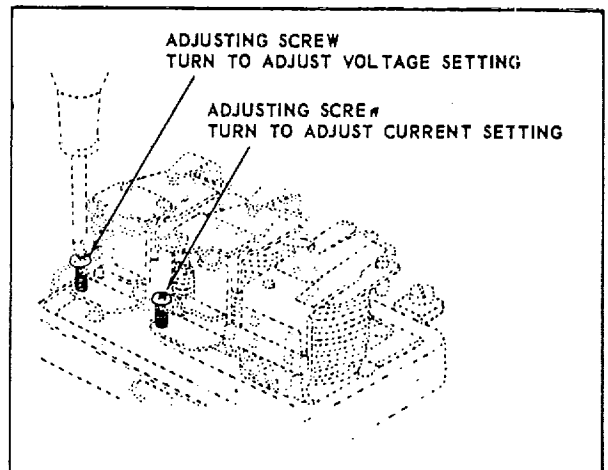
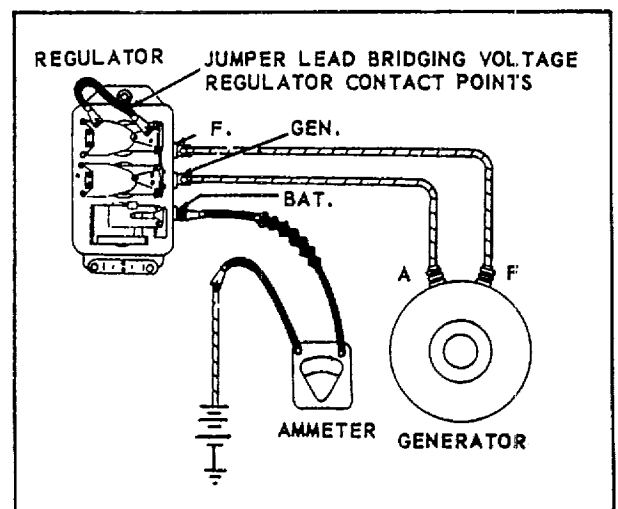

Figure 7-1H. Voltage and Current Adjustments
Figure 7-1J. Checking Current Setting of Current Regulator
for proper voltage setting.) To adjust voltage setting, turn adjusting screw as shown in figure 7-1H, clockwise to increase voltage setting and counter-clockwise to decrease voltage setting.
(3) After each adjustment and before taking voltage reading, replace the regulator cover, reduce generator speed until relay points open, then bring the generator back to speed again.
b. To check the current regulator setting, the voltage regulator must be prevented from operating. Remove the regulator cover and connect a jumper lead across the voltage contact points. Disconnect the battery lead at the regulator, connect the 2.25 ohm fixed resistor in series with a suitable ammeter and connect the battery lead to the ammeter. (See figure 7-1J.) Operate the generator at specified speed and note current setting. (See Table VI for proper current setting.) If necessary, adjust by turning the adjusting screw clockwise to increase current setting or counter-clockwise to decrease current setting. (See figure 7-1H.)